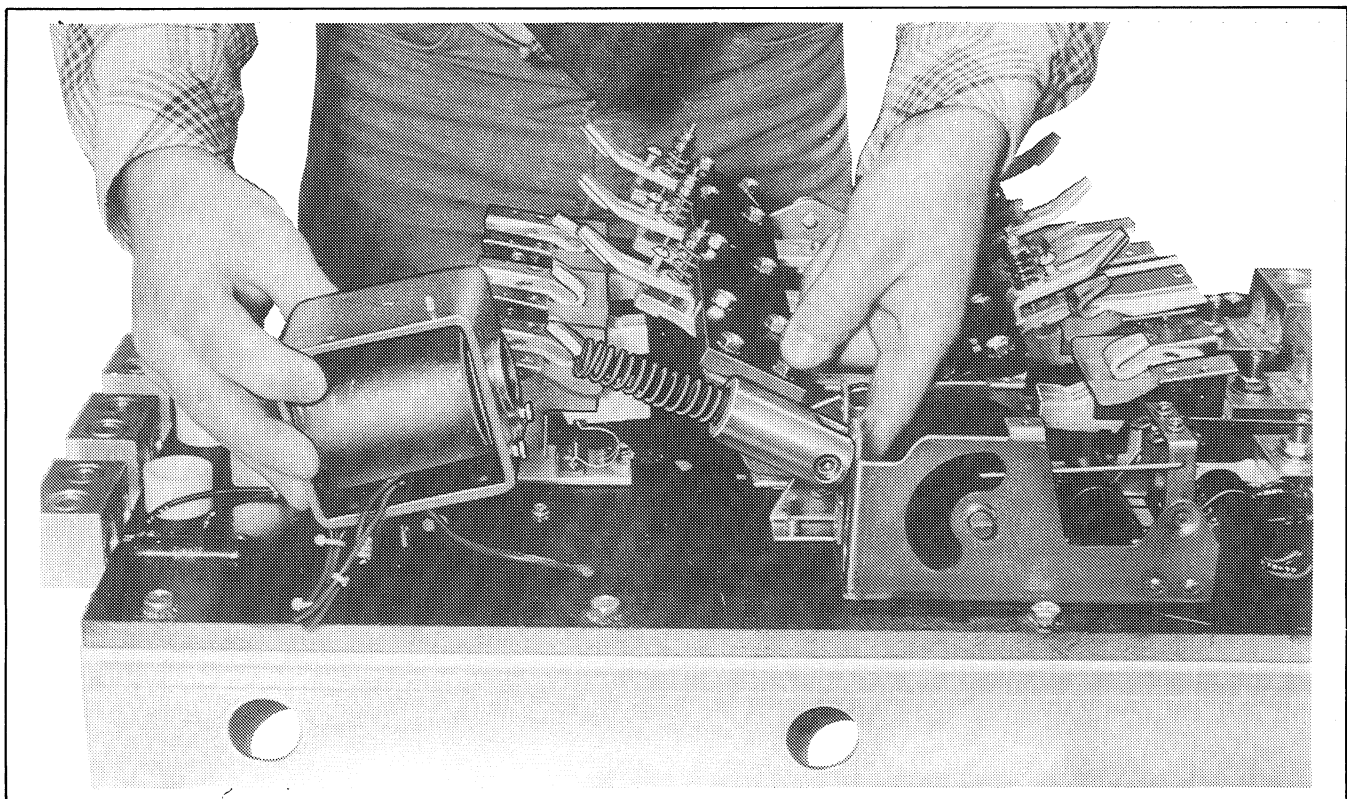

Figure 3-6. 600-800 Amp. Contactor Coil Replacement
4. Remove (2) hex. head screws that hold coil and frame assembly to operator mechanism chassis. Carefully pull coil/frame assembly slightly outward so that the short flanged guide pins on coil/frame assembly line up with key slots on mechanism chassis. When pins are lined up it will be possible to lift coil/frame assembly upward freeing it from spring and solenoid core. Do not clean lubricant off solenoid core. See Figure 3-6.